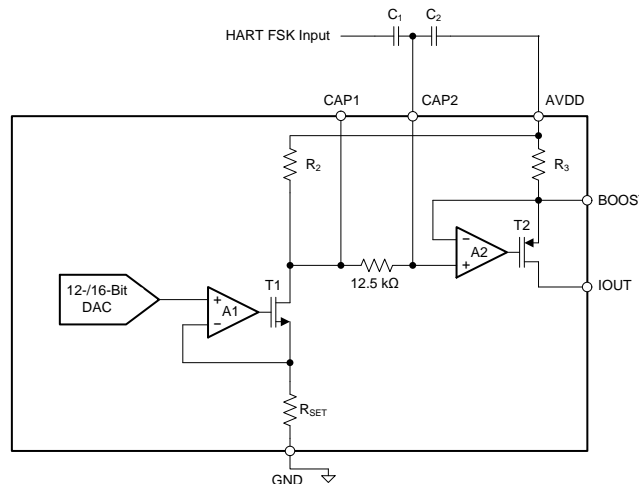

Figure 93. Implementing HART on IOUT Using the CAP2 Pin
The first method of implementing HART is to couple the signal through the CAP2 pin, as conceptualized in Figure 93. Note that this pin is only available in the 40-pin VQFN package.
In Figure 93, R₃ is nominally 40 Ω, and R₂ is dependent on the current output range (set by the RANGE bits) as described below:
1. As is seen in Figure 93, CAP2 is directly connected to the input of the final IOOUT amplifier. Any noise or unwanted ac signal routed near the CAP1 and/or CAP2 pins could capacitively couple onto internal nodes and affect IOOUT. Therefore, with the QFN package, it is important to avoid routing any digital or HART signal trace over the CAP1 and CAP2 traces.